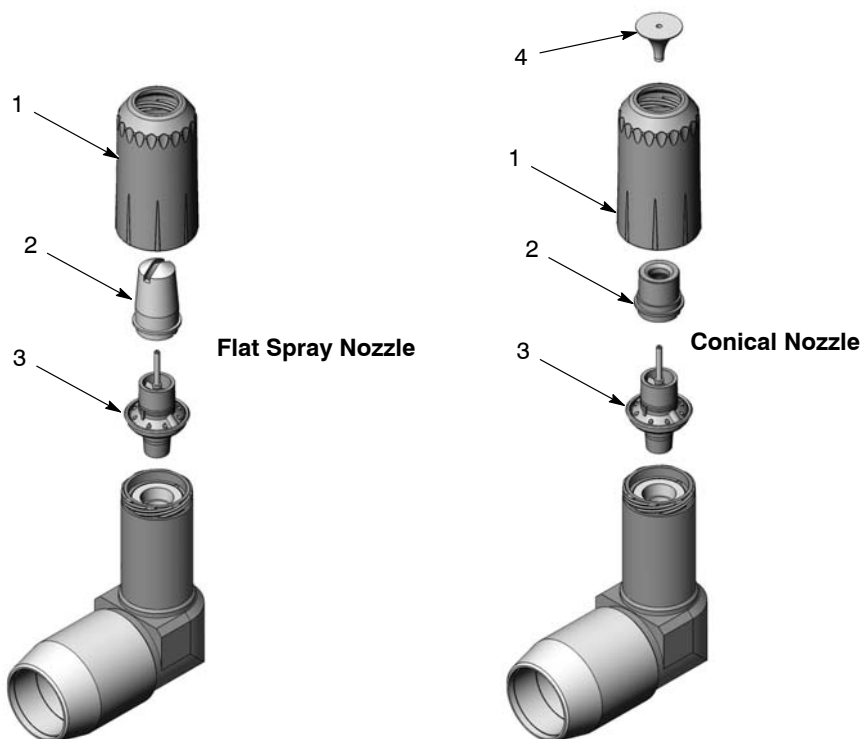

Figure 7 Installing Electrode Holder and Nozzle on the Extension
6. See Figure 7. Install the electrode holder (3), nozzle (2), and nozzle nut (1) onto the extension. If using a flat spray nozzle, orient the nozzle as desired before tightening the nozzle nut hand-tight. If using a conical nozzle, install the deflector (4) over the electrode holder after tightening the nozzle nut.
2. See Figure 7. Remove the nozzle and electrode holder from the extension.